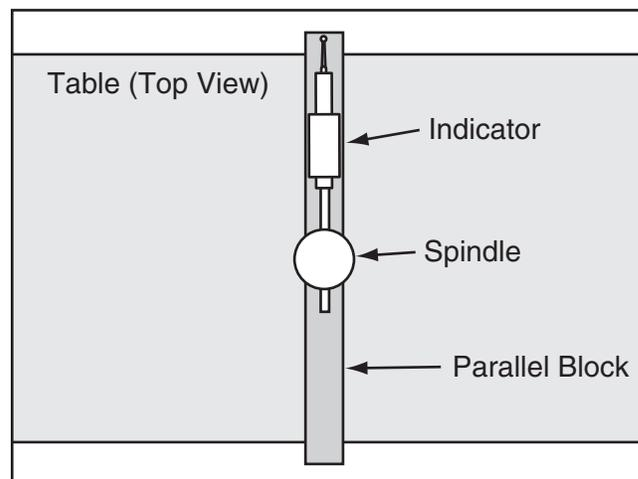

Figure 53. Parallel block and indicator positioned for Y-axis measurement (top view).
8. Place parallel block directly under spindle and across width of table, as illustrated in **Figure 53**.
9. Rotate spindle so indicator point rests on parallel block, as illustrated in **Figure 53**, then zero dial.